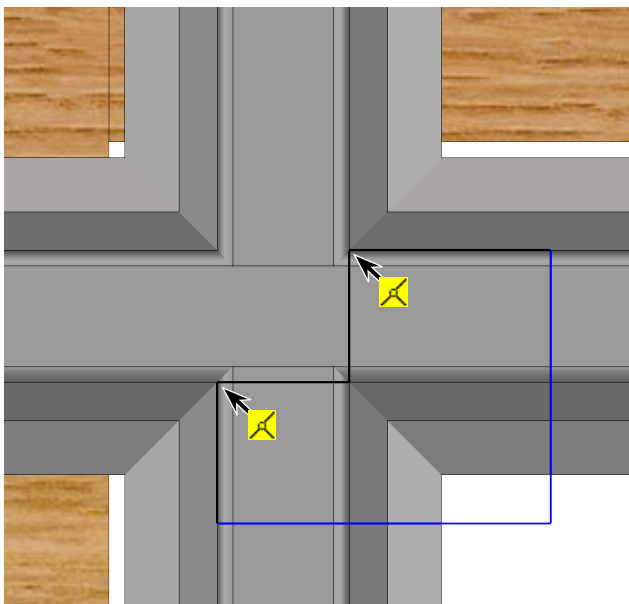

Fig. 10
Step 5. Sketch **6 lines starting along edge of Rail**, **Fig. 10**.